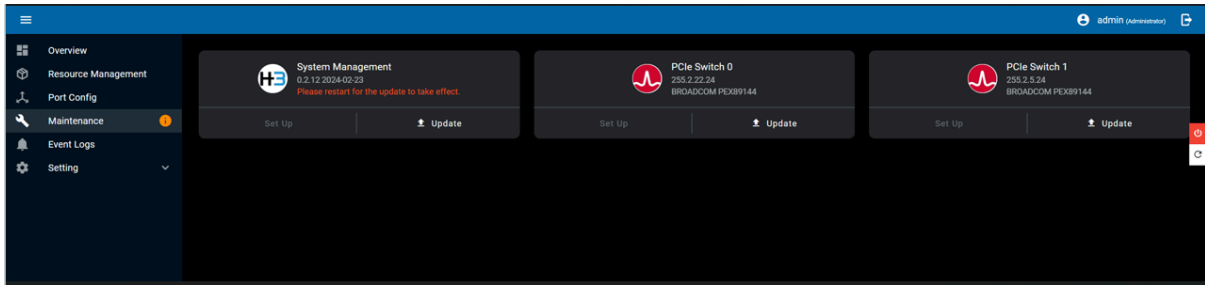

Figure 85. Post-Update Reminder Prompt in Maintenance Menu
- If another user logs in or opens a new GUI session after the update, a reminder message will appear next to the Maintenance menu on every page (refer to Figure 85).